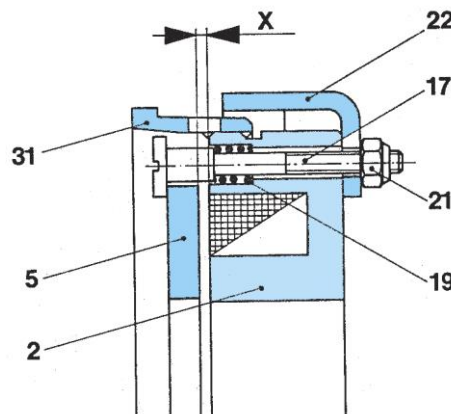

Fig. 5
The restoring bolts (17) may only be tightened by the locking nuts (21) so that the adjusting dimension "X" according to Table 4 and Fig. 5 remains existing at least between armature disc (5) and coil carrier (2).
1. b) screw panel (44) into the terminal box – lower part (39) with the countersunk screws (45). Mount the terminals with 2-, 4- or 6-poles (46) with caps screws onto the panel (44). Glue the terminal marking (47) onto the panel (44). (Observe the position of the terminal marking acc. to Fig. 5).
3. Screw the holding bracket (37) with cap screws (49) to the brake back side.
4. Pull the brake coil, tighten the hexagon nuts (42).
6. Close the terminal box. Observe the sealing (51) and sealing washers (53).